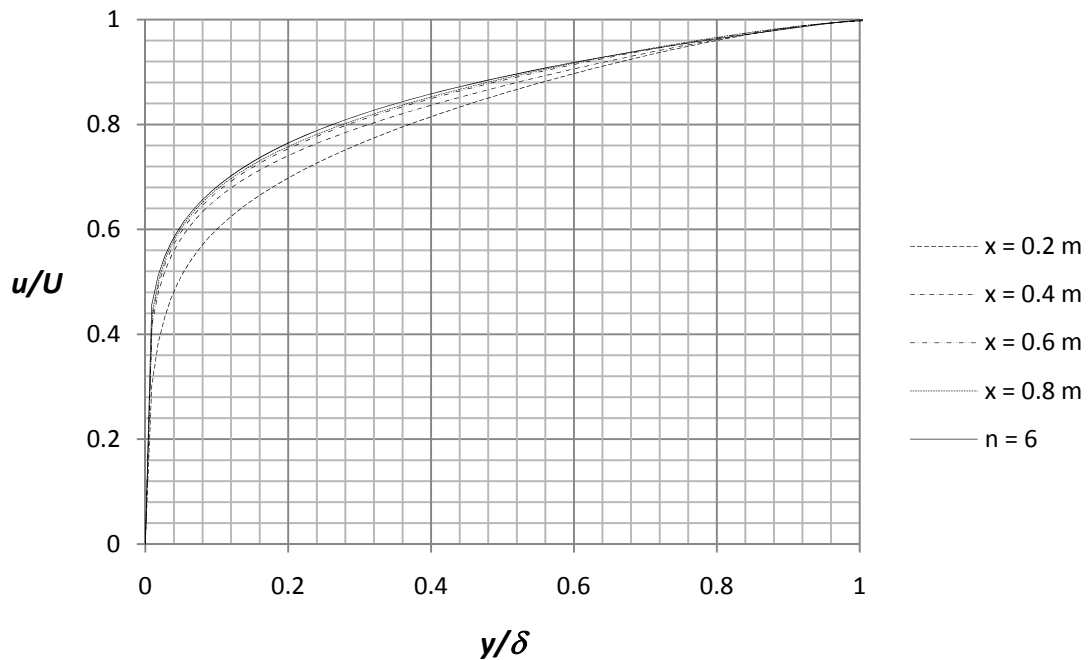

Figure 2.31 The same profiles as in figure 2.30a) compared with one-sixth power law for turbulent profile.
33. Place the file “xy-plot figure 2.31” into the **Local Disk (C:)/Program Files /SolidWorks (2)/SolidWorks Flow Simulation/lang/english/template/XY-Plots** folder to make it available in the **Template** list. Repeat step 24 and choose the sketch $x = 0.2, 0.4, 0.6, 0.8$ m and check the box for **X-Velocity**. Rename the xy-plot to **Comparison with One-Sixth Power Law**. An Excel file will open with figure 2.31. In figure 2.31 we compare the results from Flow Simulation with the turbulent profile for $n = 6$. The power –law turbulent profiles suggested by Prandtl are given by
It is seen that for the higher Reynolds numbers in figure 2.31, that the velocity profiles resembles the one-sixth power law.